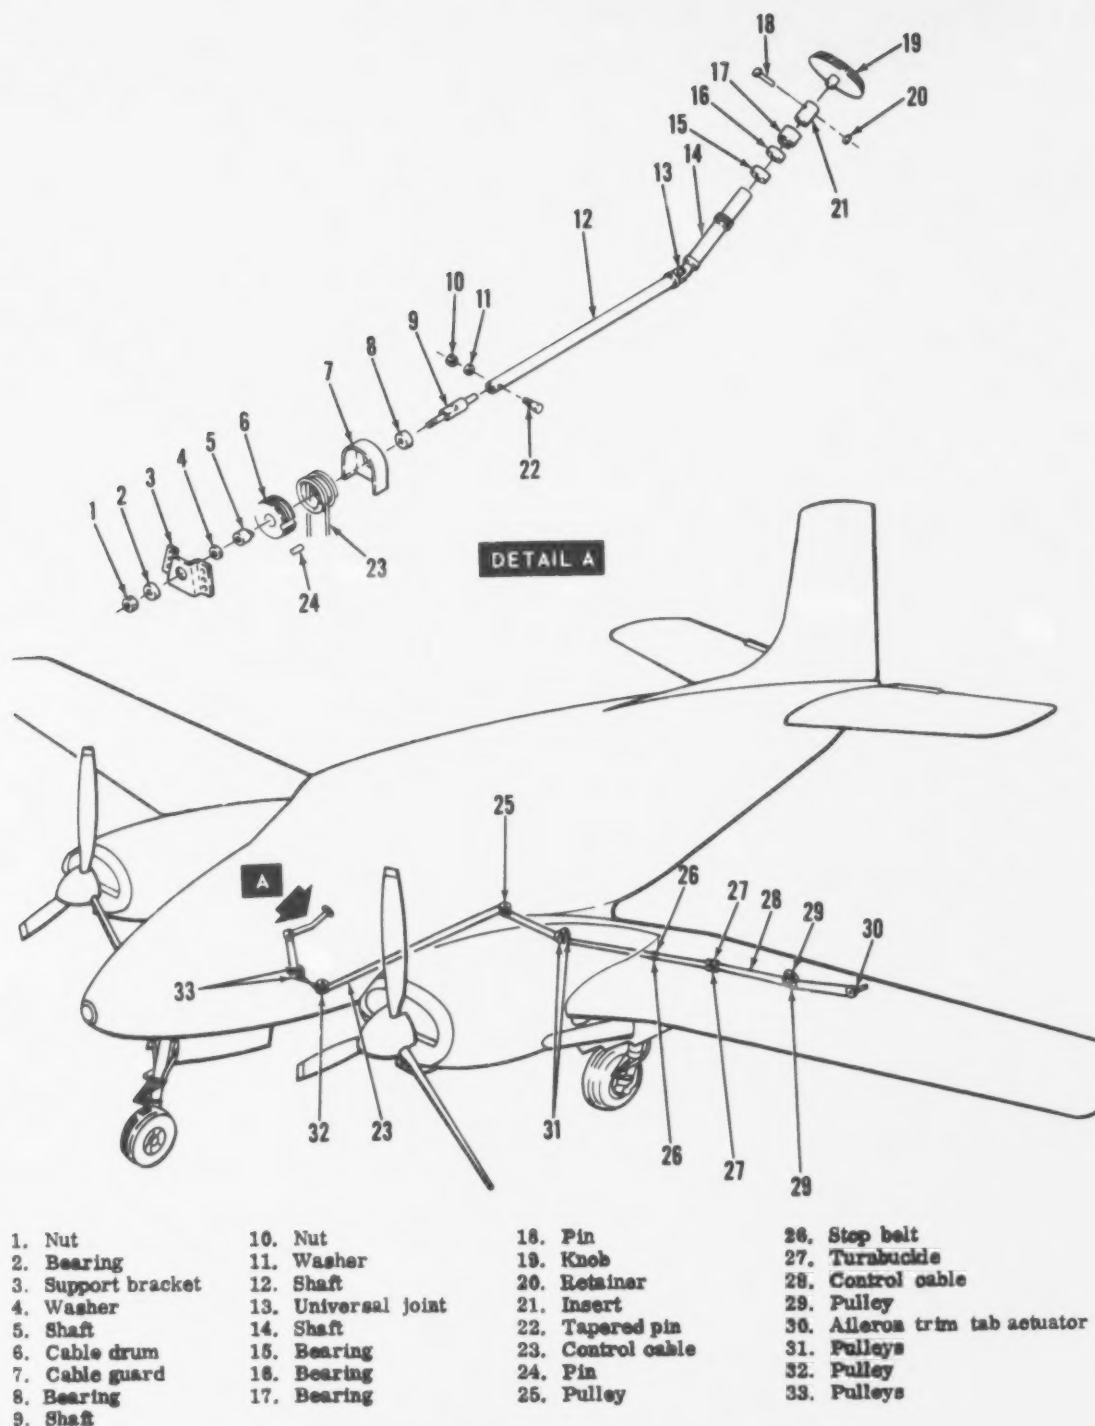

Figure 9-10. Aileron trim tab control system (U-3F)
(1) Adjust aileron trim tab on right aileron for correct travel in accordance with step a.
(2) Adjust cables (23 and 28, figure 9-10)
(a) Remove bolt (29, figure 9-1), washer (61), and nut (60) and remove end of control rod (30) from aileron trim tab actuator (30, figure 9-10).
(g) Adjust aileron trim tab travel in accordance with table 9-1 by adjusting stop bolts (26, figure 9-10) in left wheel well.
9-48. The aileron trim tab actuator (30, figure 9-10) is located in the left wing. The aileron trim tab actuator is connected by control rods (30 and 42, figure 9-1) and bellcrank assembly (33) to the aileron trim tab on the left aileron.
a. Removal. (1) Remove access covers from underside of left wing below aileron trim tab actuator (30, figure 9-10) and pulleys (29).
(2) Remove lock wire and disconnect turnbuckles (27) from end of control cable (28). Connect lead lines to ends of control cable.
(3) Remove cable-retaining pins from bracket at pulleys (29).
(4) Remove bolt (29, figure 9-1), washer (61), and nut (60). Remove end of control rod (30) from aft end of aileron trim tab actuator (30, figure 9-10).
(5) Remove bolts, washers, and nut and remove aileron trim tab actuator (30) with control cable (28) out of access hole in left wing.
(6) Disconnect lead lines from ends of control cable (28) and connect to wing structure.
(7) Remove bolts, washers, and nuts and remove housing from aileron trim tab actuator (30).
(8) Remove cable pin from cable drum and remove control cable (28) from cable drum of aileron trim tab actuator (22).
b. Cleaning. Clean aileron trim tab actuator with dry cleaning solvent (item 5, table 1-8) and dry with filtered, compressed air.
d. Installation. (1) Position exact center of control cable (28, figure 9-10) in slot of cable drum of aileron trim tab actuator (30) and install cable pin.
(2) Wrap control cable (28) around cable drum beginning at outside grooves and move in; make two turns with each end of control cable. Wrap each end in opposite directions.
(3) Position housing over cable drum and install bolts, washers, and nuts. Tape control cable (28) at housing to prevent control cable from unwinding from cable drum.
(4) Disconnect lead lines from wing structure and connect to end of control cable (28).
(5) Pull on lead lines in left wheel well and pull control cable (28) into position. Position aileron trim tab actuator (30) in left wing and secure with bolts, washers, and nuts.
(6) Disconnect lead lines and connect ends of control cable (28) to turnbuckles (27). Ensure that turnbuckles are secured with lockwire. Remove tape from control cable at aileron trim tab actuator (30).
(7) Install cable-retaining pins in brackets at pulleys (29).